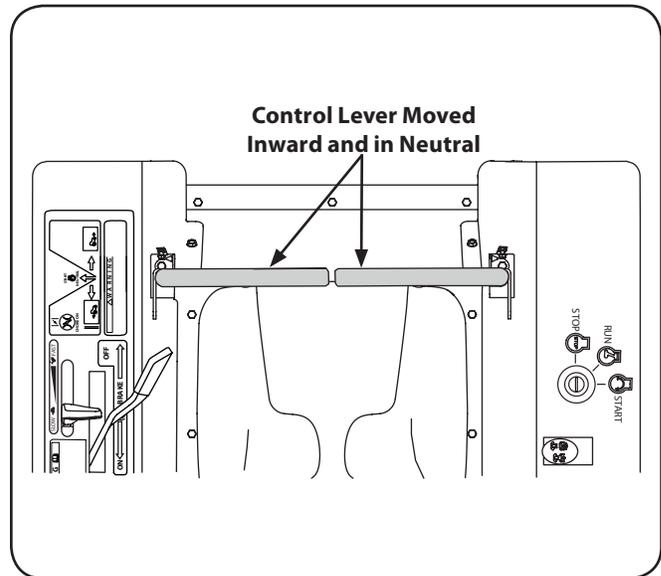

Figure 5-1
3. Move the RH and LH drive control levers inward in the neutral position. Refer to Figure 5-1.